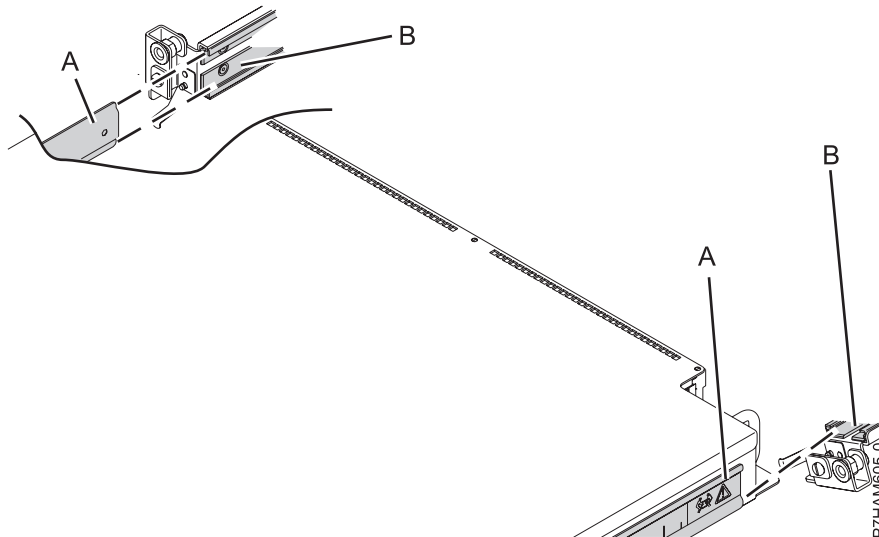

Figure 12. Reviewing the enclosure attachment to the rails
- a. Before attempting to mount the PCIe storage enclosure to the rails, review Figure 12 to observe how the chassis bracket guide (A) on the side of the enclosure fits and slides into the rail sheath (B) that matches its shape.
**Note:** In Figure 12, the right rail (B) is portrayed at an angle to show the location of the rail sheath. The actual rail is mounted in an upright position in the rack.